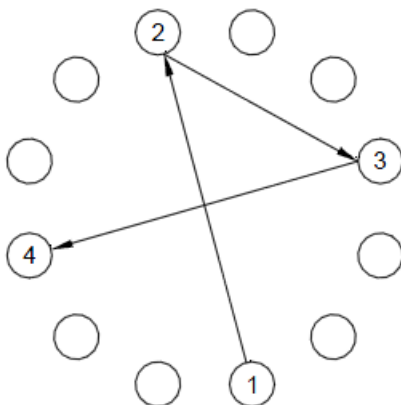

Fig.13. Initial Tightening
- Tighten the first four nuts in the sequence shown Fig.13. This helps in correct location of the mating parts.